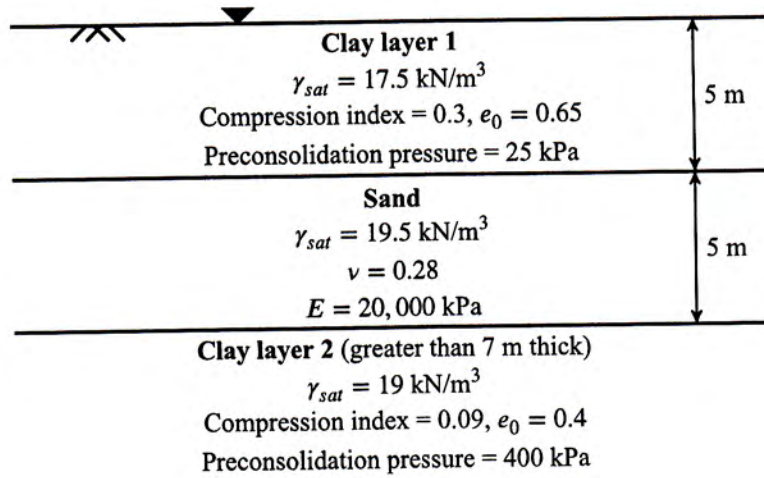

Figure 1: Question 3 (a) and 3 (b)
- (a) Determine the immediate settlement of the sand layer below a rectangular footing (2 m \times 3 m) carrying a load of 160 kN. The soil profile is given in Fig. 1. Depth of foundation = 2 m. (16 $\frac{2}{3}$)